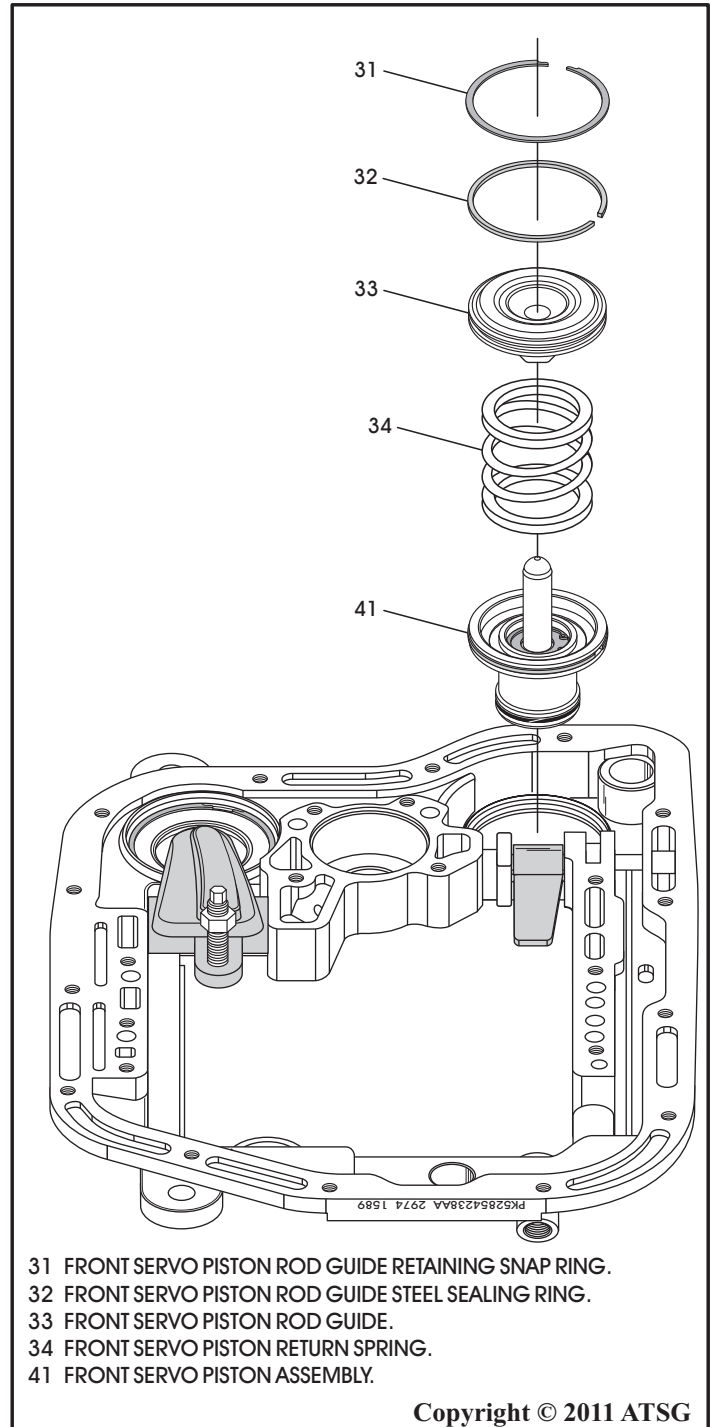

Figure 99
35. Install new seal ring on the front servo rod guide, as shown in Figure 99, and lube with a small amount of Trans-Jel®.
36. Install the completed front servo piston assembly into the case, as shown in Figure 99.
37. Install the servo return spring and rod guide into case, compress spring and rod guide, and install snap ring, as shown in Figure 99.